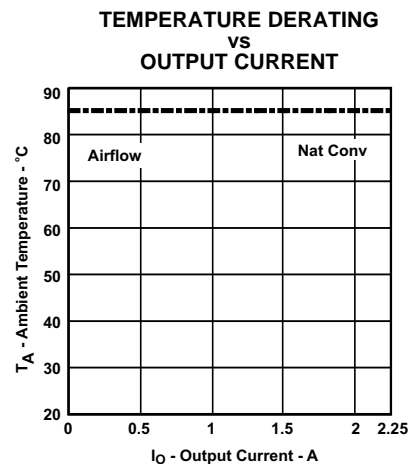

Figure 8.
- (2) The temperature derating curves represent the conditions at which internal components are at or below the manufacturer's maximum operating temperatures. Derating limits apply to modules soldered directly to a 100-mm x 100-mm, double-sided PCB with 2-oz. copper. Applies to Figure 8.